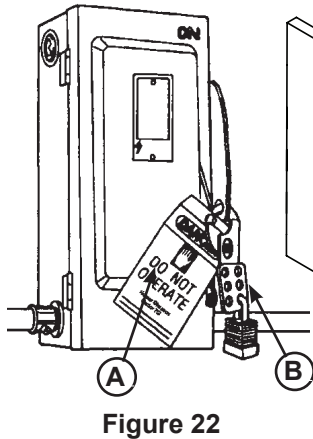

Figure 22
When working with electrical or electronic controls, make sure that the power source has been tagged (A) and locked out (B) according to OSHA regulations and approved local electrical codes (see Figure 22).